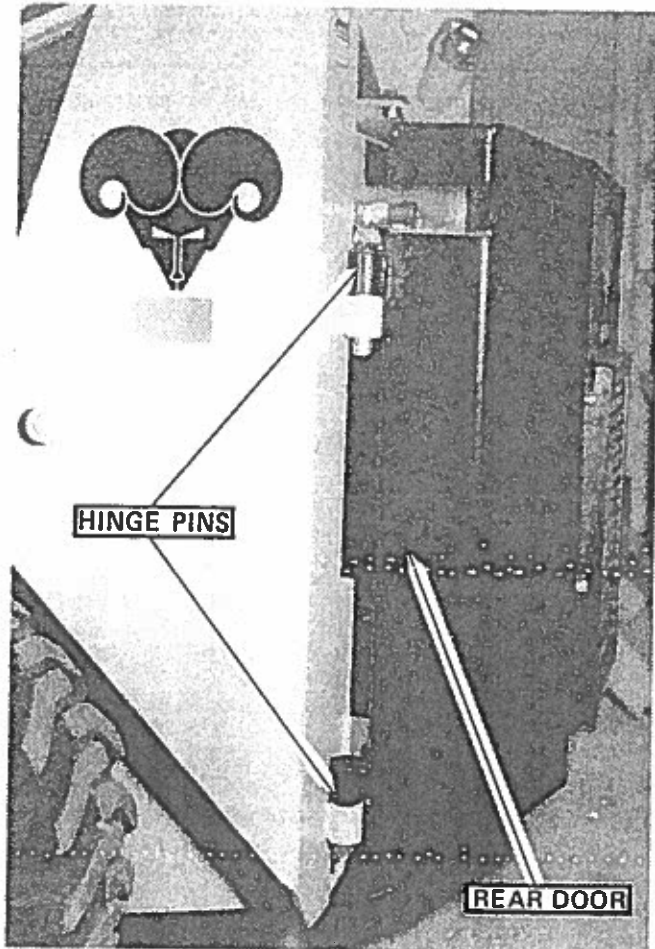

FIGURE 20
2. Remove the two left side rear-door hinge pins, see FIGURE 20, and swing door open.